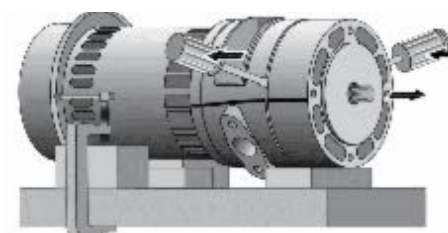

Figure 32
10. Carefully tap a small screwdriver or thin bladed chisel in between the intermediate volute and the pump adapter in two or three places around the pump to separate the castings (Figure 32). Do not mar the sealing surfaces; do not break pieces out to the adapter or volute - the castings are easily damaged.